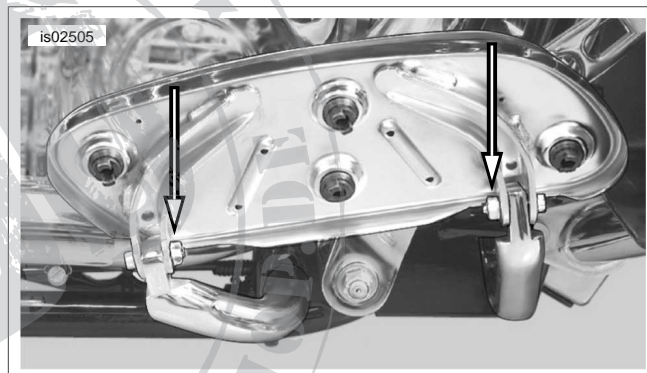

Figure 1. Footboard Pivot Bolts and Locknuts
5. See Figure 1. **For Touring and Softail FLSTC/I, FLSTN, FLSTS/C and FLSTF/I models:** Remove the two right side footboard pivot bolts and locknuts to remove the footboards.